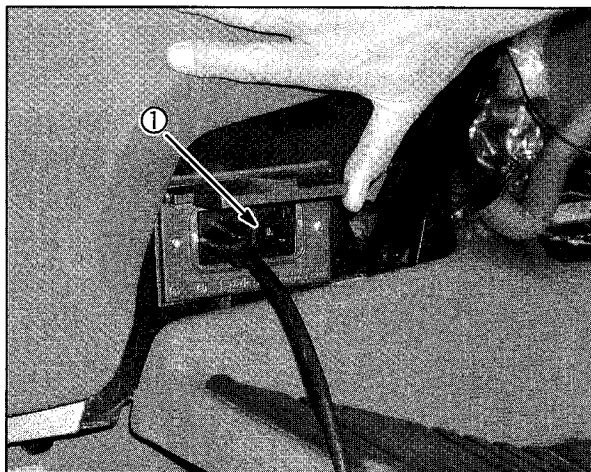

Fig. 34
1. The engine must be running with the parking brake (1) set and the PTO DISENGAGED.
3. Press the GFCI test button (1) to trip the GFCI, **Fig. 34**: